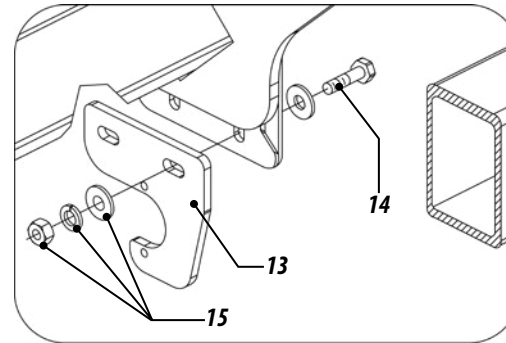

Figures 09
- 2- Fix the bearings (1) to the chassis of the seeder with screw (2), washers and nuts (3). Fix the brackets (4) and clamp (5) in the life (6) of the set with screw (7), washers and nuts (8)
- 3- Place the hexagonal shaft (9) with sleeve (10) and gears (11)
- 4- With the bearings support already assembled, touch them at the hexagonal shaft ends and lock them with the cotter pin (12). Figure 09.